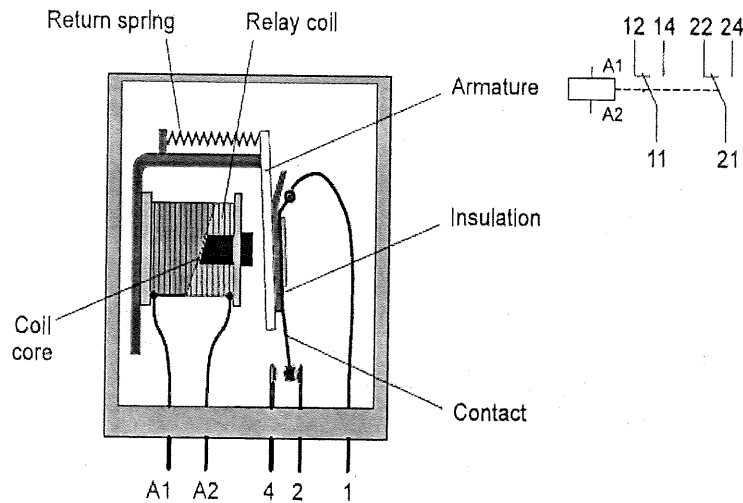

Figure 1
- a) State three (3) element inputs for the electro pneumatics system. (6 marks)
- d) Figure1 shows the symbol of a relay. Describe the function of this relay. (9 marks)